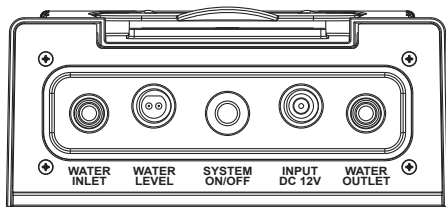
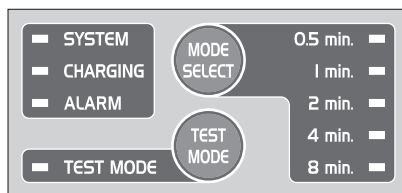

Figure 10
Figure 11
- 1) Turn on the control unit by the **SYSTEM ON/OFF** switch and the **SYSTEM** indicator on the panel will light as shown in **Figure 10** and **Figure 11**. **SYSTEM** indicator could be in one of the below three colors, proceed only when it is **Green**.
- 2) Press the **TEST MODE** button to test if the system works right. The system will work continuously regardless of the working minutes assigned by the active working mode until user stops the test by pressing the button again as shown in **Figure 11**.